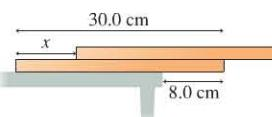

FIGURE Q8.22
22. III A 30.0-cm-long board is placed on a table such that its right end hangs over the edge by 8.0 cm. A second identical board is stacked on top of the first, as shown in Figure Q8.22. What is the largest that the distance x can be before both boards topple over?